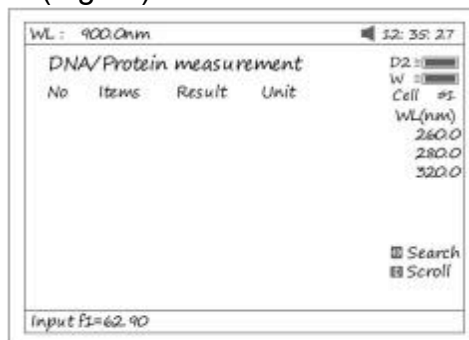

Fig 61
1. To use a simpler or different algorithm, you can enter your own values for f1-f4. Press **【 F1 】** to set f1-f4. Input the value by pressing the numeric keypad (Fig 61).